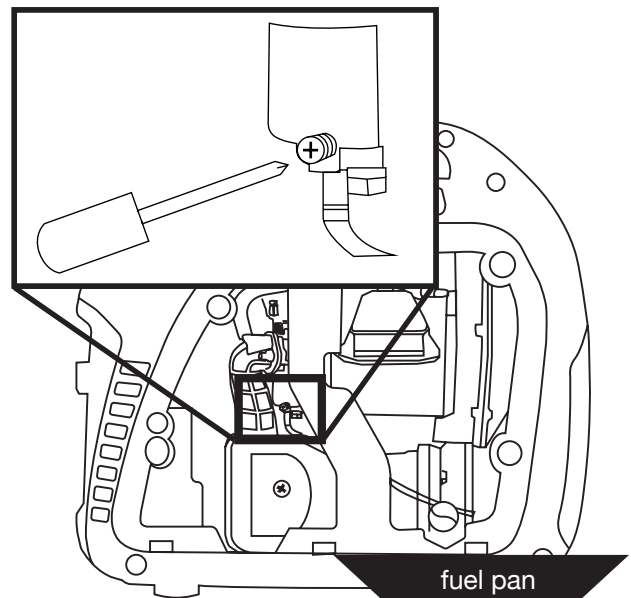

Figure 18: Loosen float bowl screw
3. Loosen the float bowl drain screw (see Figure 18), until fuel is seen draining from the float bowl.